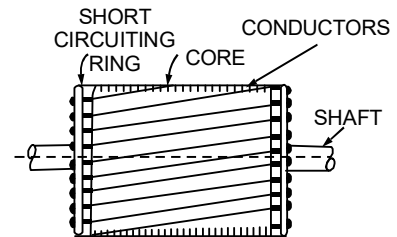

Fig. 4.3: Squirrel cage rotor
- (i) **Squirrel cage rotor** : The motors employing this type of rotor are known as *Squirrel cage induction motors*. Most of the induction motors are of this type because of simple and rugged construction of rotor. A squirrel cage rotor consists of a laminated cylindrical core having semi-closed circular slots at the outer periphery. Copper or aluminium bar conductors are placed in these slots and short circuited at each end by copper or aluminium rings, called short circuiting rings, as shown in fig.4.3. Thus, the rotor winding is permanently short circuited and it is not possible to add any external resistance in the rotor circuit.